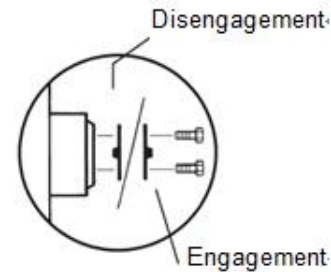

Figure 10-2 Brake release
- 2) Turn over all four driving wheel hub separating covers to release wheel brakes, as shown in Figure 10-2.